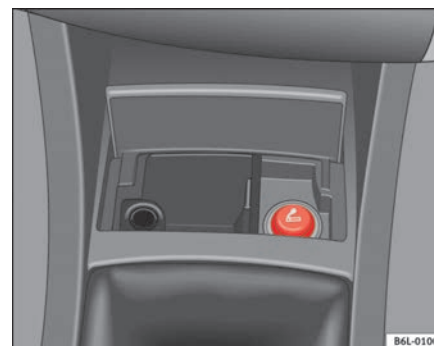

Fig. 83 Cigarette lighter
- Press on the cigarette lighter ⇒ fig. 83 to activate it ⇒ .